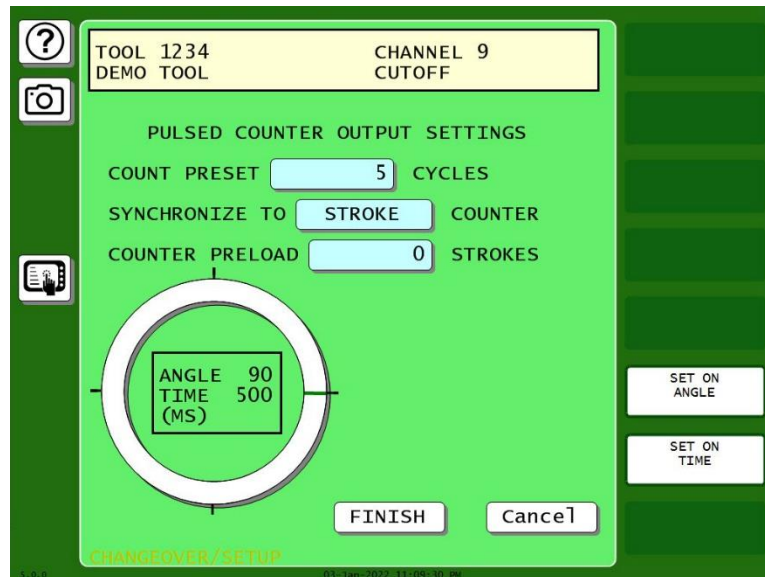

Figure 7-18. Pulsed Counter Settings
1. Select PROGRAM TIMED OUTPUT on the Cam Channel Program Type Menu. The Cam Pulsed Counter Program screen, shown in Figure 7-18. Pulsed Counter Settings, displays.